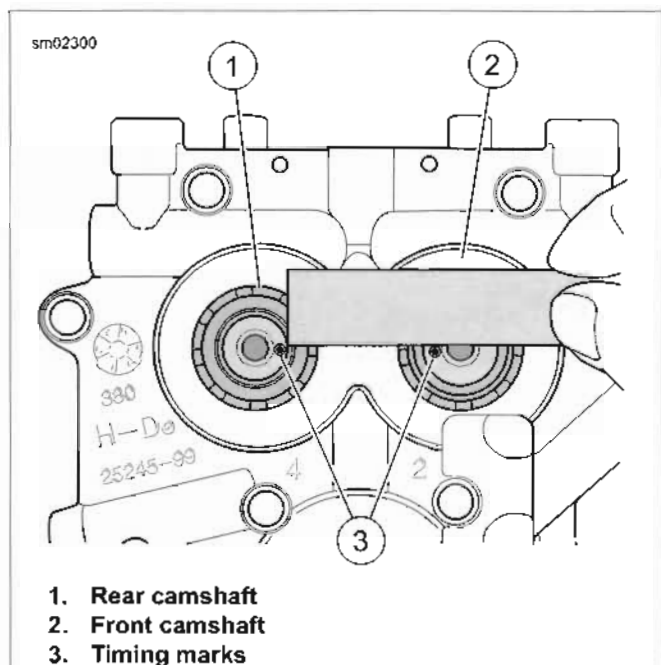

Figure 3-110. Verify Alignment of Timing Marks
- See Figure 3-110. Verify that the timing marks on the ends of the front and rear camshafts are in alignment.